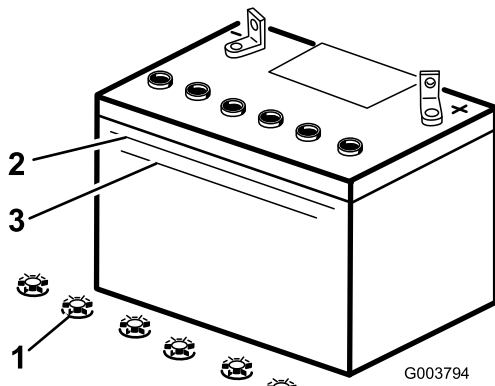

Figure 38
3. Look at the side of the battery. The electrolyte must be up to the Upper line (Figure 38). Do not allow the electrolyte to fall below the Lower line (Figure 38).
3. Remove the filler caps from the battery (Figure 38).
4. Slowly pour distilled water into each battery cell until the electrolyte level is up to the Upper line (Figure 38) on the battery case.
level is up to the Upper line (Figure 38) on the battery case.